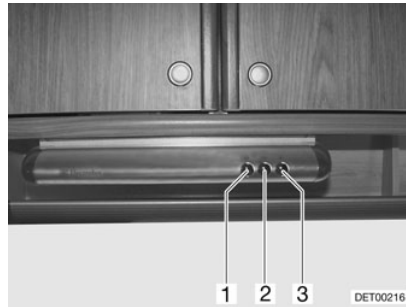

Fig. 74 Extractor hood
- Press switch (Fig. 74,2) to switch the extractor hood on and off. The switch (Fig. 74,3) can be used to change the fan output.
- Use the switch (Fig. 74,1) to turn the cooker lamp on and off.